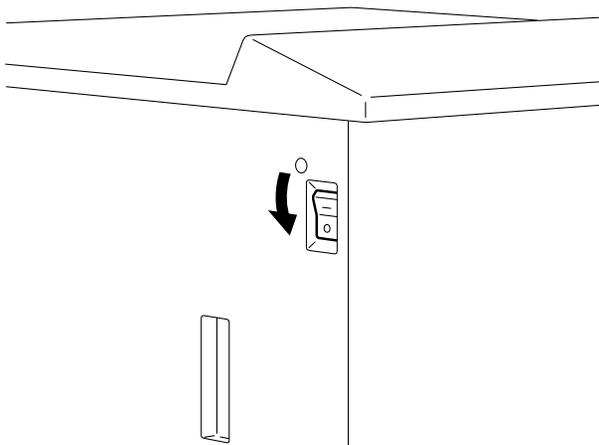

Figure 5-19
2. Check that the printer power switch, on the side of the printer is in the OFF (0) position (Figure 5-19).
1. Turn the Printer's main Power switch On (see Figure 5-19).
1. Place the Printer Power Switch (Refer to Figure 5-19) into the off position.